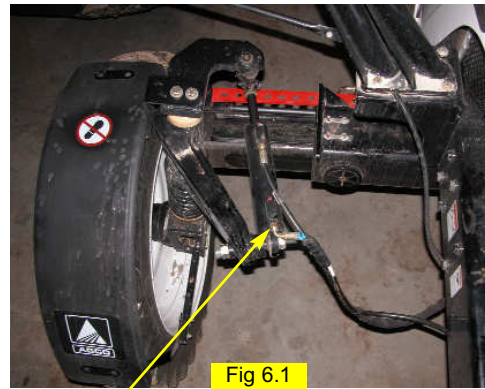
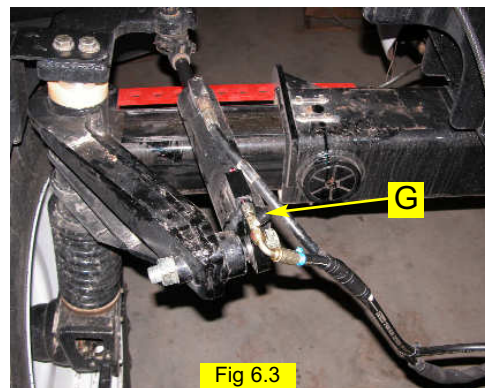

Fig 6.1
Fig 6.3
Locate the steering lines on the head end of the steering cylinders. (Figure 6.1 and 6.2) Install the provided run-tees (G) in the steering lines as shown. (Figure 6.3 and 6.4) Use plastic caps to prevent excess leakage from the open run-tee ports.